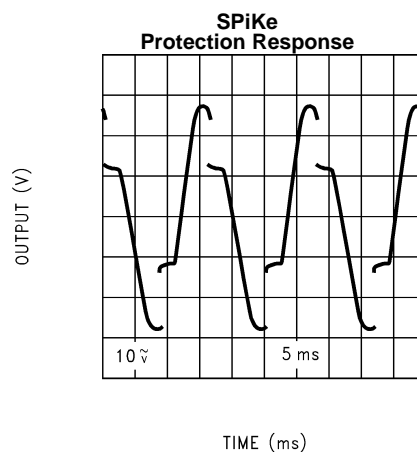

Figure 5.
- (1) All voltages are measured with respect to the GND pin (pin 7), unless otherwise specified.
- (2) Absolute Maximum Ratings indicate limits beyond which damage to the device may occur. Operating Ratings indicate conditions for which the device is functional. Electrical Characteristics state DC and AC electrical specifications under particular test conditions and specific performance limits. This assumes that the device is within the Operating Ratings. The typical value is a good indication of device performance.
- (3) Operation is specified up to 84V, however, distortion may be introduced from SPIke Protection Circuitry if proper thermal considerations are not taken into account. Refer to THERMAL CONSIDERATIONS for more information. (See Figure 5)